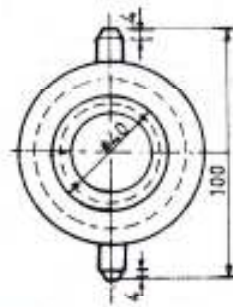

FIG. NO. 7
- Q.4** Sectional Elevation, Side view and Top view of 'Cotter Joint' are shown in **FIG. NO.7**. Draw its necessary two orthographic views of the following dismantled parts.